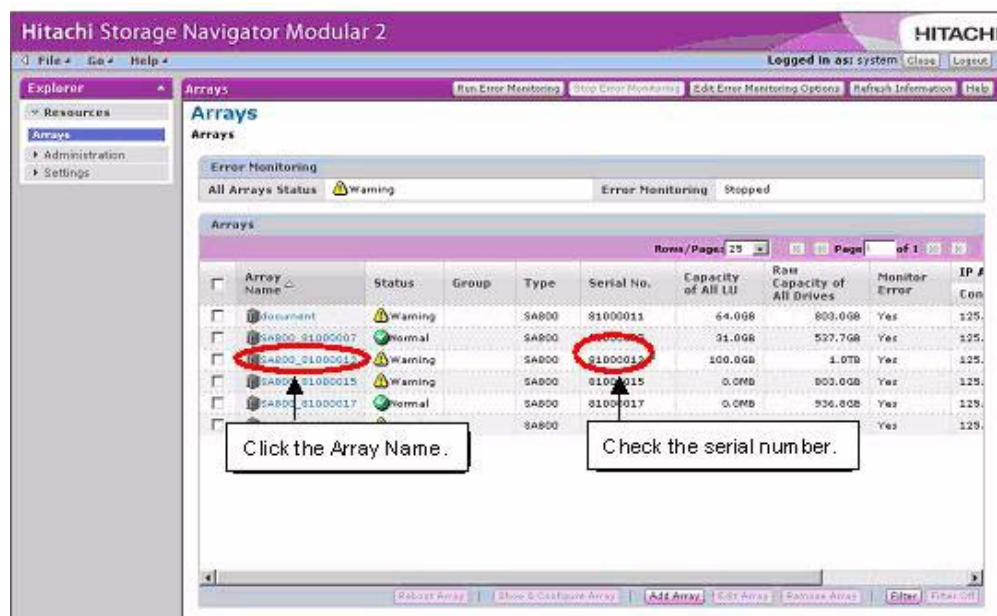
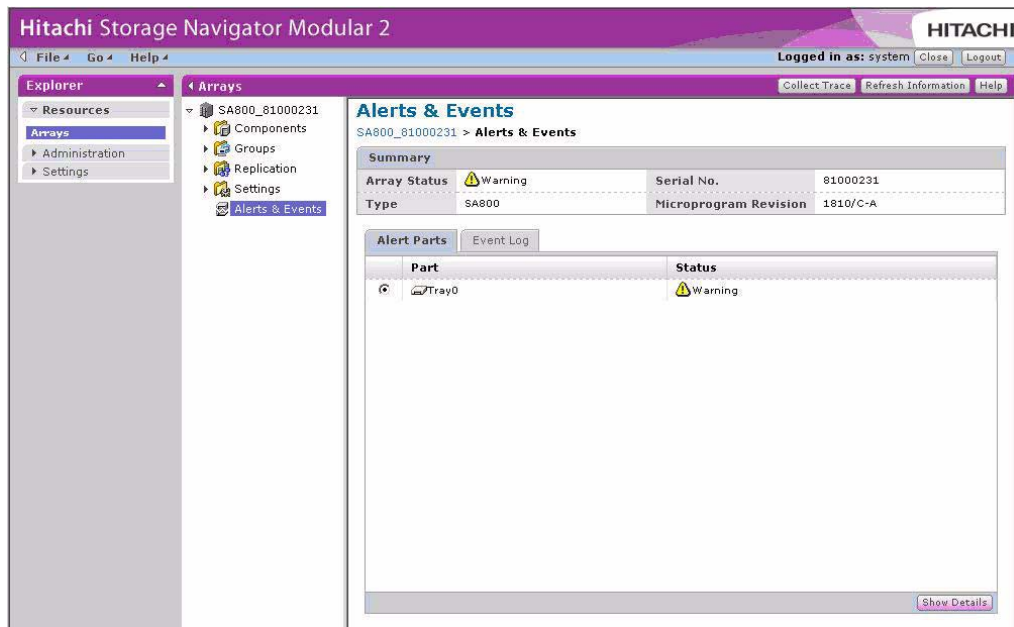

Figure 5-1: Locating the Array Name and Serial Number
Figure 5-2: Example of the Failure Parts List Tab
3. In the **Arrays** area, check the status and serial number of the array where the failure occurred (see Figure 5-1 on page 5-3).
6. From the Arrays area shown in Figure 5-1, click the name of the array. When the next screen appears, click either **Alerts & Events** in the Arrays pane or **Check for Errors** in the Common Array Tasks area. In the **Alert Parts** tab, check for the failed part, such as a disk drive (see Figure 5-2 on page 5-4).